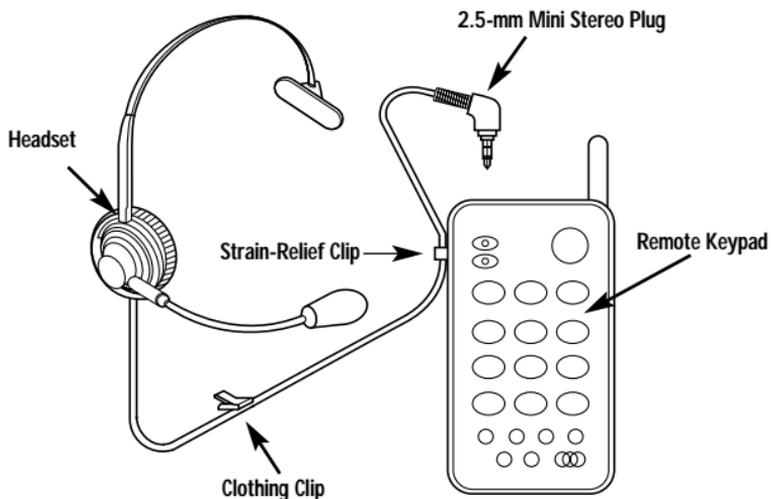

Figure 2-5. Installing the headset.
2. Place the headset cord under the strain relief clip on the side of the remote keypad (see Figure 2-5).